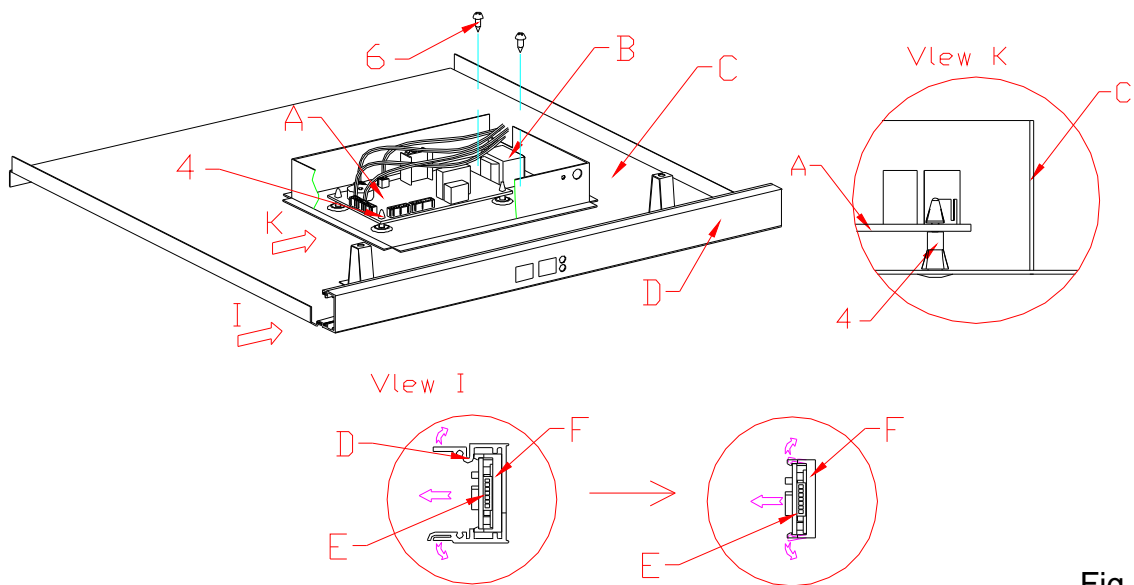
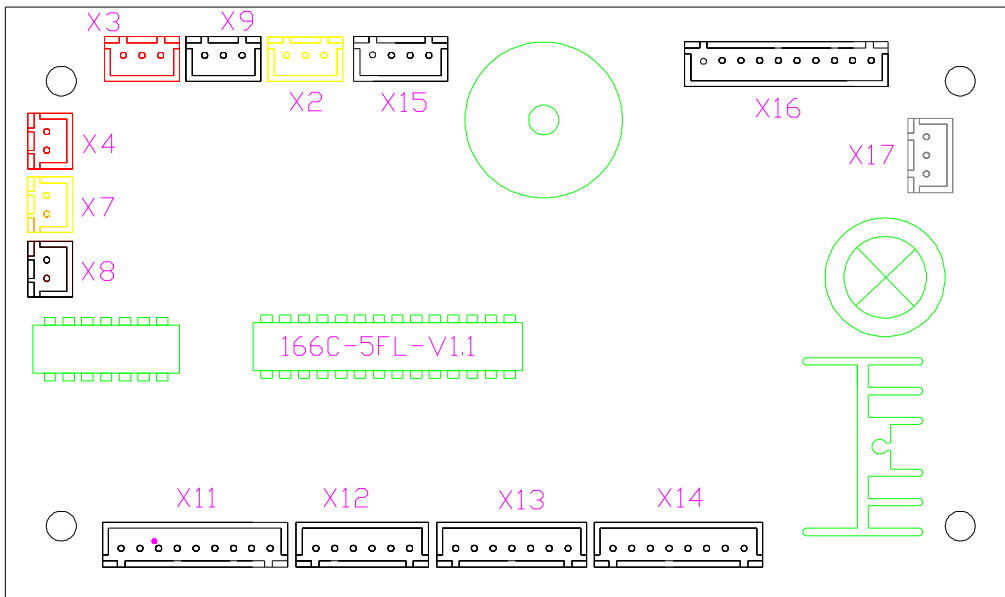

Fig. 9
Fig. 10
- 3 >. If the above a~e point is line in the situation, and every components of the machine is normal; if there is any different, and firstly check the abnormal components and their connection wire. If the connection is tight, replace the components. If the replacement fail, it can be judged as control panel’s fault, please replace it with the same module. (→9、→10、→11、) (Fig.9 & Fig.10 & Fig.11 & Fig.12.1 & Fig.12.2 & Fig.12.3)
Replace the displace PCB (→8) (Fig.9).
1 >. Disconnect all connectors one by one, pinch the head of the plastic nails(4),take up the PCB at the same time, take away the PCB from nails, replace it please(Fig. 9) (Vlew K),
Open the fixing part (D) slightly according to the arrowhead in the view I, take apart the displace PCB support (F) ,then pull 4 hooks of the support (F) according to the arrowhead, take apart the displace PCB(E),disconnect the connectors, replace it please.(Fig. 9) (Vlew I)
- Layout of main PCB (Fig. 10)
- 4 .If it is PCB broken,replace it please. (Fig. 9)